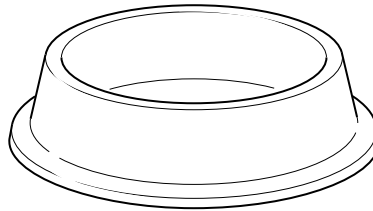

Fig. 4
- 8 Fig. 4 shows a dog feeding bowl made from plastic. [2]